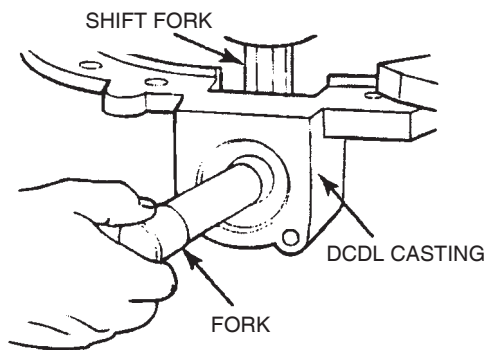

Figure 6.10
9. Pull the shift shaft from the fork and out of the differential. Figure 6.10.